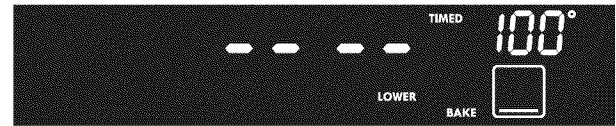

Figure 28: Display for setting cook time
5. Press **Cook Time** (Figure 28).